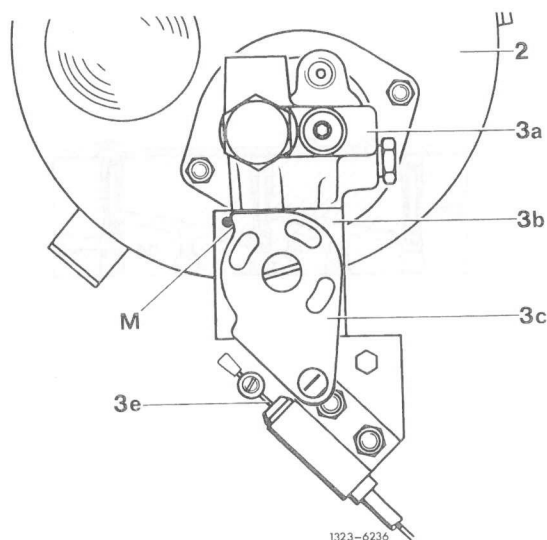

Fig. 141
M = "Assembly position" is required for the workshop only. In assembly position, the suspension system is pressureless up to level controllers (control disc pulled back against stop with pull knob released) (Fig. 141).
This position can be adjusted only after releasing the pull knob on the control disc (Fig. 141). All three control valves are open, the check valve will be actuated in level controllers similar to position S = "Locking position". In addition, the central reservoir is connected to the return duct (19), so that in this position the pressure lines from and to the central reservoir (B2) and (B3), as well as the pressure line to the level controllers (B4) and the control pressure line for "Higher level" (C) will be pressureless.